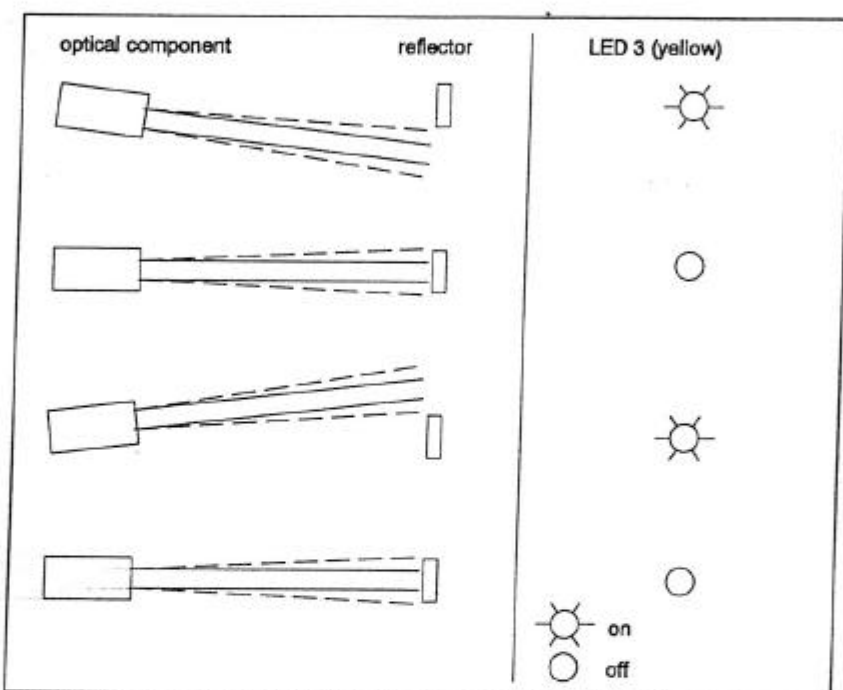

Figure 9-3 Alining the REFLEX optical component and the receiver
4. Now turn back and fasten the optical component at the center of the this range (Figure 9-3).